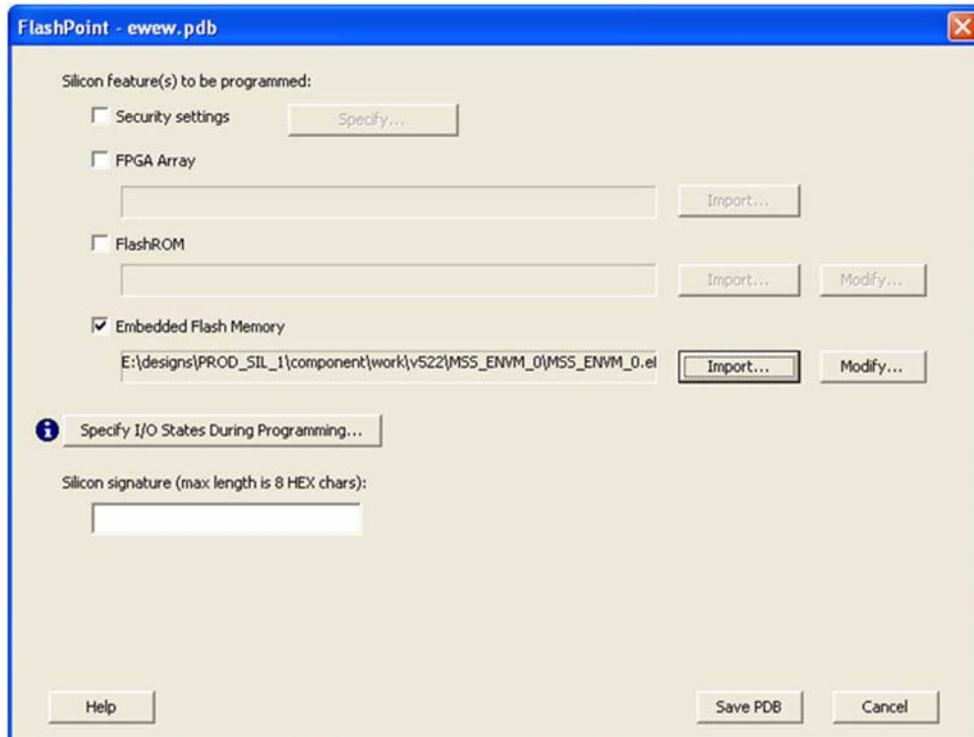

Figure 1-2 · Specify Location of EFM and FlashROM (UFC) File
3. Specify your Embedded Flash memory and FlashROM content. Point to the EFC file for the EFM and the UFC file for the FlashROM (as shown in Figure 1-2).